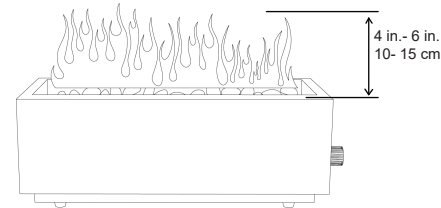

Figure 6
9. After lighting, observe the burner flame. Make sure all burner ports are lit and flame height matches illustration (Figure 6).